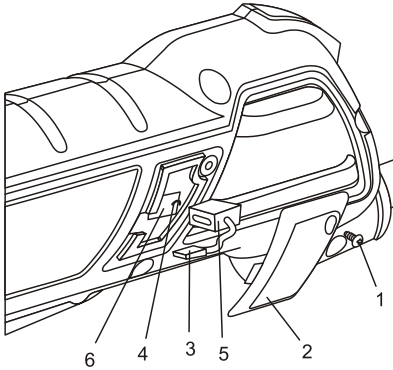

Fig. 14
- Use a #1 ⊕ screwdriver and remove the screw (1) from the brush cover (2) in the left handle (Fig. 14).
- Use needle nose pliers and pull the outer spade connector (3) off the inner spade connector.
- Use needle nose pliers to carefully lift the brush spring (4) off the carbon brush (5).
- Pull the carbon brush from the brush holder (6).